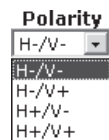

Figure 6-12 — Polarity drop box
1. Click the Polarity field. A drop down box appears (figure 6-12).